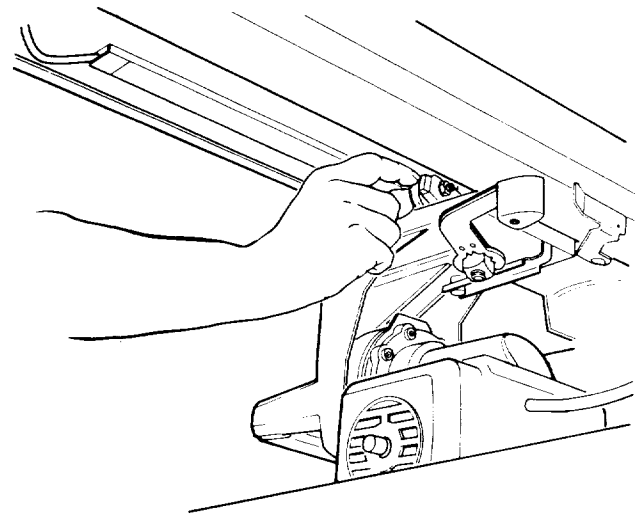

Fig. 117
12. Pinch the *front carriage bearing* with your fingers as tightly as possible while you pull the *motor* forward with the other hand. Try to keep the *carriage bearing* from turning. (Figure 117)